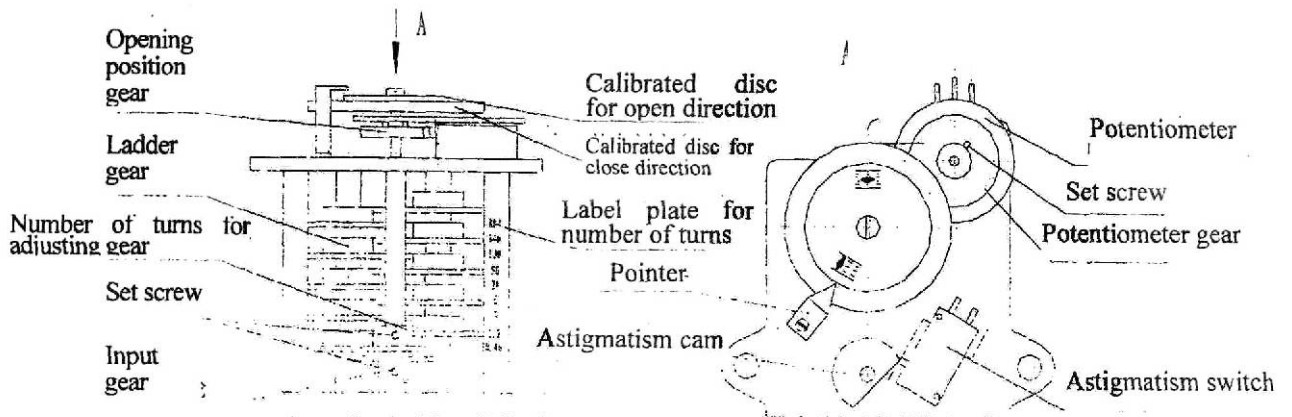

Figure 7
It is the complete line of general purpose part, and we can refer to Figure 7 for its structure. Input gear is driven by the units order gear of counter, and after speed reduction, the indicator disc will rotate together with the opening and closing process of the valve to indicate the opening or closing of the valve. The axis of the potentiometer and indicator disc turns synchronously for the remote transmitting opening indication, and move the aligning gear for number of turning can change the number of turning. Inside the opening indicator, there are a sensitive switch and cam, and when the electric actuator runs, the rotating cam will make the sensitive switch actuate periodically with the frequency of working once or twice when output axis rotates one circle, which can be used for flashing signal etc.
6.3 The adjustment of opening position indicator (refer to Figure 7)